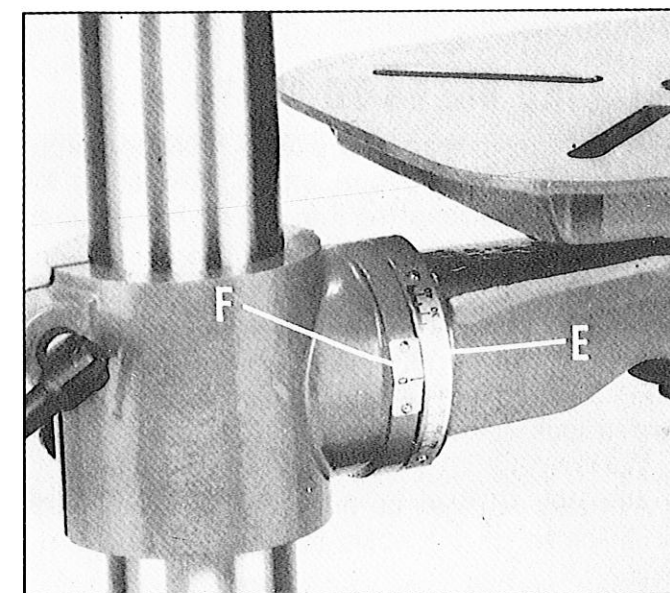

Fig 31
5. A tilt scale (E) and pointer (F) Fig. 31, are provided on the table bracket casting to indicate the degree of tilt.